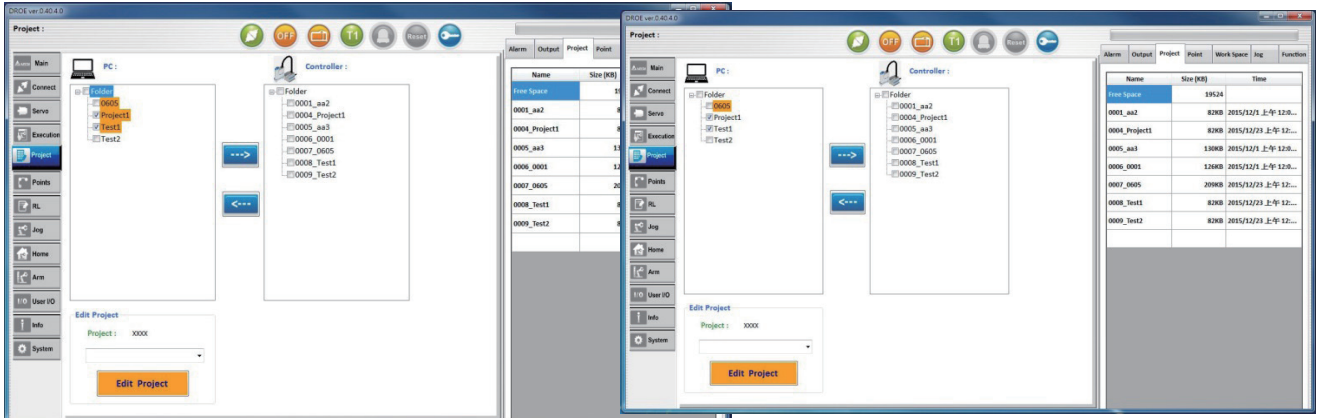

Fig.21 Download Projects on MS Controller Side to PC Side
- (2) Download the projects on the MS controller side to the PC side: tick the project in the MS-side project list, and click “<---” to download the projects on the MS controller side to the PC side, as shown in Fig.21.